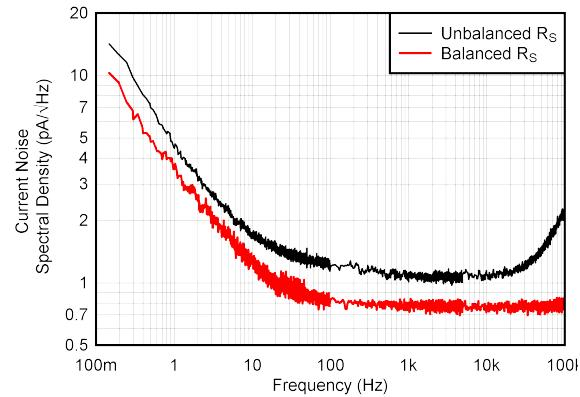

Figure 7-25. Current Noise Spectral Density vs Frequency (RTI)
- (7) This parameter is tested in a high speed automatic test environment and does not measure the thermal effects with a longer time constant. The thermal effect depends on supply voltage, layout, heat sinking and air flow conditions.
- (8) Total RTI voltage noise is equal to:  $e_{\text{N(RTI)}} = \sqrt{[e_{\text{NI}}^2 + (e_{\text{NO}} / G)^2]}$ .
- (9) Input current noise density specified for unbalanced input impedance. Bias current cancellation improves noise performance for balanced systems; See Figure 7-25.